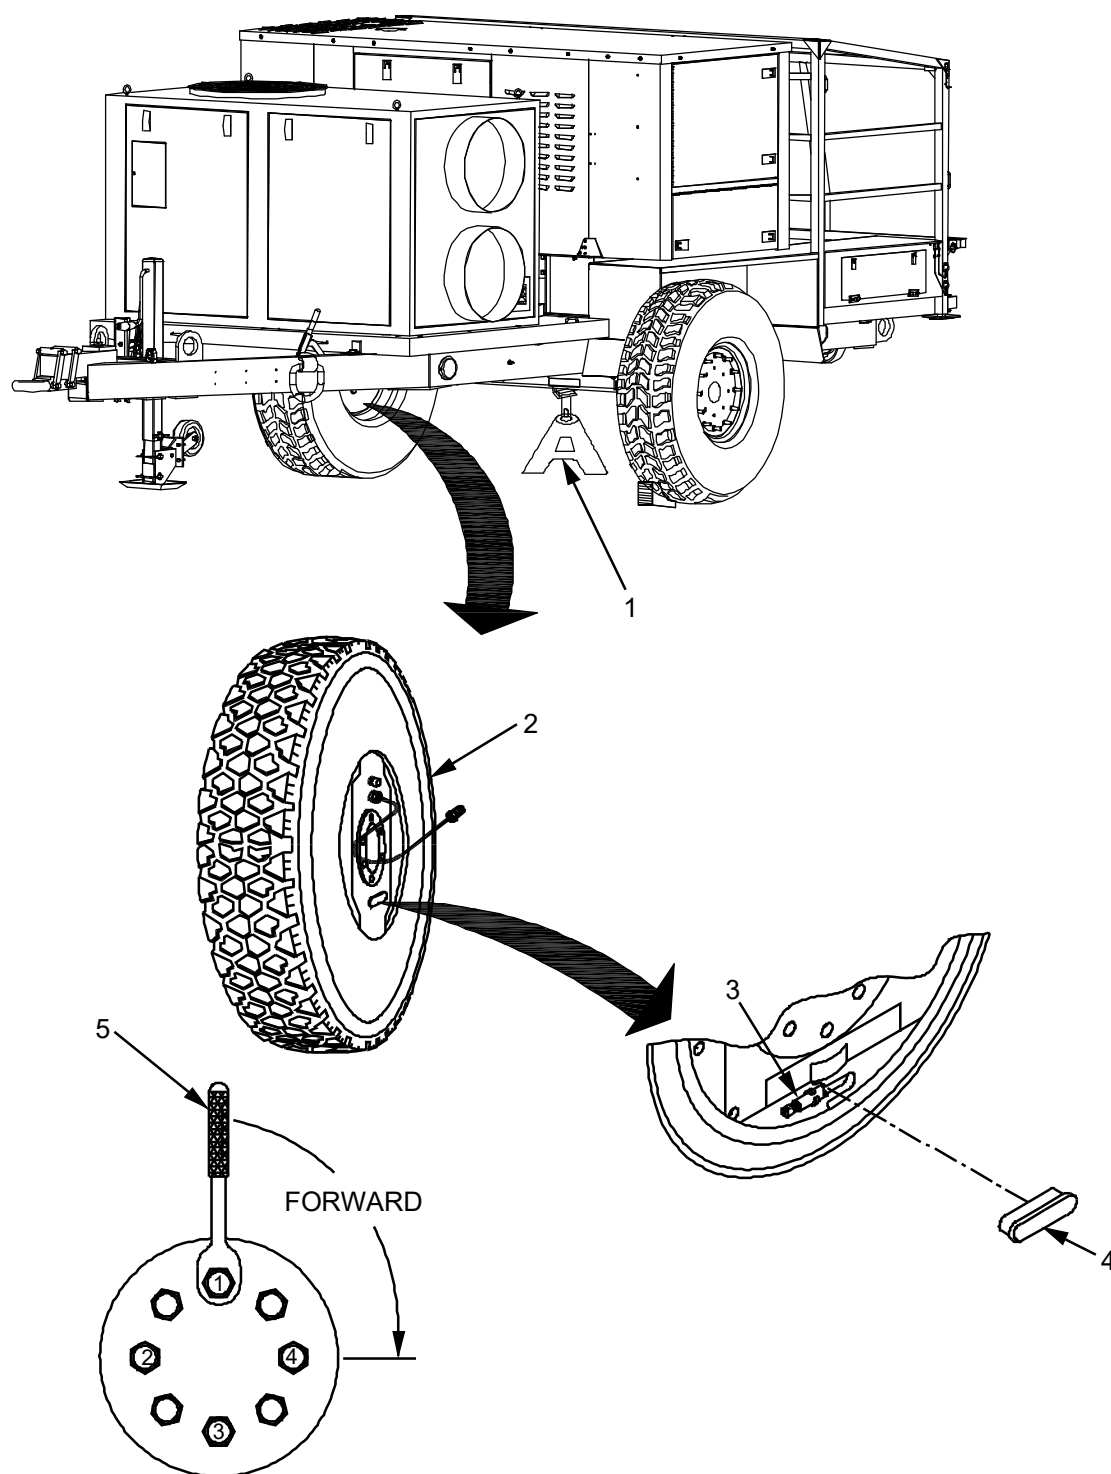

Figure 3. Brake Adjustment.
3. Using three-ton jack, raise trailer to sufficient height where fully inflated wheel assembly (Figure 3, Item 2) may be rotated freely.
4. Place three-ton jack stand (Figure 3, Item 1) under trailer axle between wheel assembly and axle mount. Raise jack stand (Figure 3, Item 1) to meet trailer axle. Lower trailer onto jack stand.
6. Remove protective plug (Figure 3, Item 4) from backing plate.
7. Rotate star wheel (Figure 3, Item 3) upward, 20 to 25 clicks, to tighten brakes.
The brake adjustment is performed by rotating the wheel using a torque wrench (Figure 3, Item 5) and measuring the force required to turn the wheel. While checking the adjustment, the wheel must be turned in the forward direction to ensure correct adjustment. Rotate wheel in the forward direction from taillight toward the tongue.
13. Install protective plug (Figure 3, Item 4) in backing plate.
14. Using three-ton jack, raise trailer to sufficient height to remove jack stand (Figure 3, Item 1).